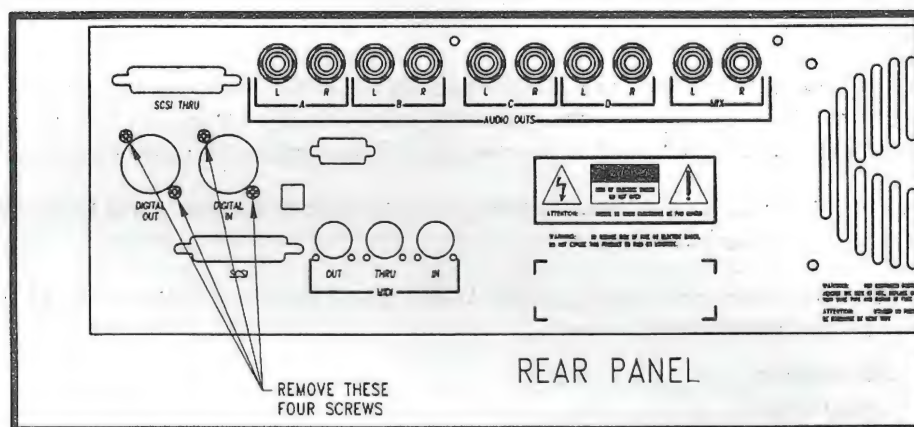
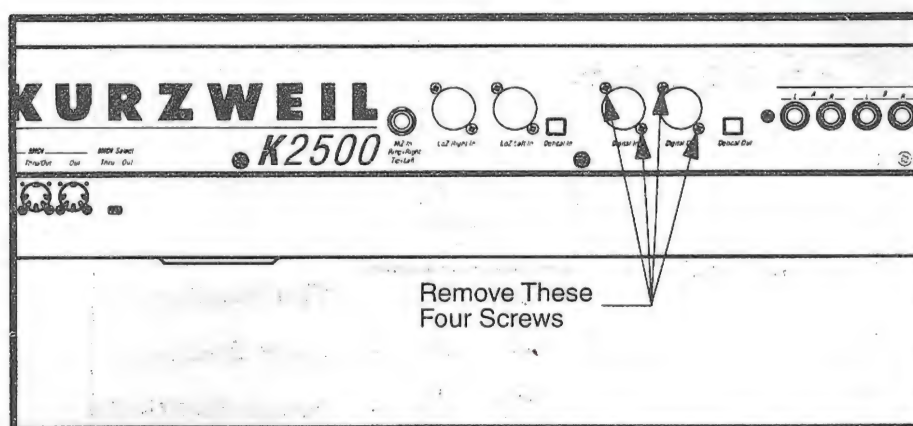

Figure 12.
Figure 13.
6. See Figure 12 for rack units, or Figure 13 for keyboard units. Locate the Digital I/O Board in the rear panel of the K2500. Using a Phillips screwdriver, remove the screws holding the board in place. Then remove the optical connector cap from this board.
11. See Figure 12 for rack units, or Figure 13 for keyboard units. Using a Phillips screwdriver, remove the four screws holding the plate behind the rear panel Digital I/O holes. You may discard the plate.